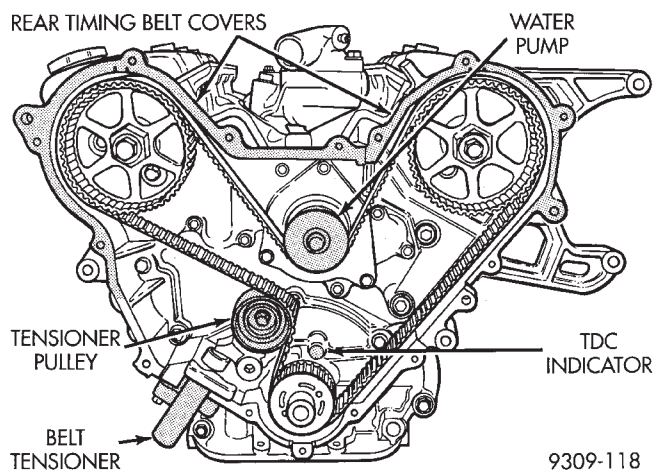

Fig. 4 Timing Belt System
- (3) Remove the timing belt tensioner (Fig. 4) and remove timing belt.